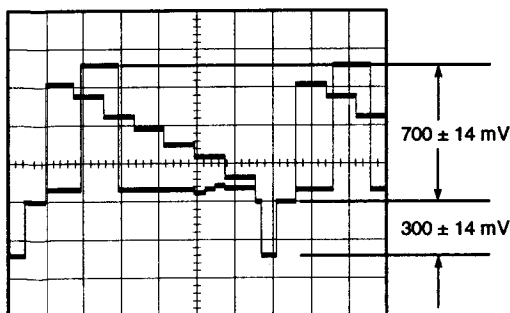

Fig. 5-1-13
- Adjust VR10 so that the Y Level becomes  $700 \pm 14$  mV as shown in Fig. 5-1-13.
- Adjust VR2 so that the Sync Level becomes  $300 \pm 14$  mV as shown in Fig. 5-1-13.